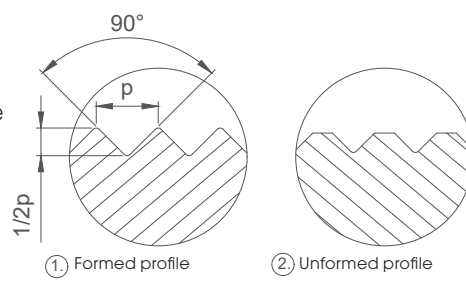

Fig. 6: Different profile pattern
The profile depth is set by moving in the X direction and corresponds to approximately the half pitch p (with 90° flank angle), (Fig. 6). After reaching the depth, the dwell time of the tool should be between 3 and 10 revolutions of the workpiece. Then disengage the tool while the spindle is rotating. The profile is completely formed when the tooth tips are closed (Fig. 6, ref. 1). A new setting takes place when the profile is not completely formed (Fig. 6, ref. 2). Running into the profile again is possible, because the knurling wheel catches in the existing profile.